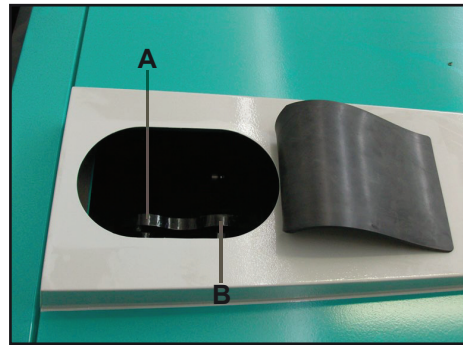

FIG.3
### 8. TRANSPORTABILITY (fig.3)
To lift the machine, use the four special points provided on top of the cab (fig.3). Hook A is for the machine WITHOUT bucket; hook B is for the machine WITH bucket.
**⚠** - Caution! Never use points different from those indicated in figure 3 to lift the machine.